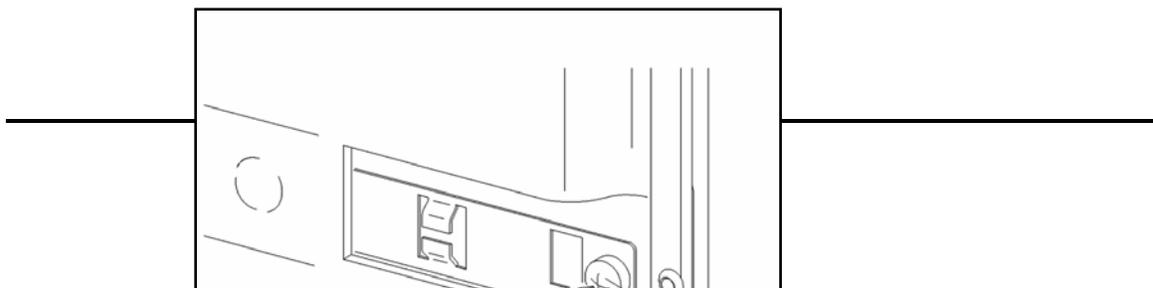

Figure 5-10: Front Hinge Retaining Screw
12. Remove the front door hinge retaining screws (Figure 5-10 - Item 1).